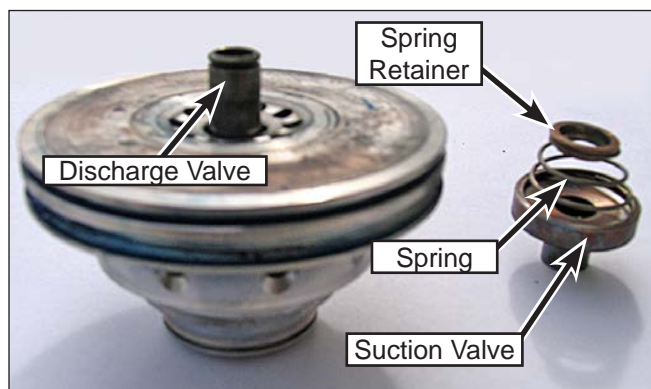

Figure 86: Valve Installation.
1. Install the discharge valve into the valve body (Figure 86).